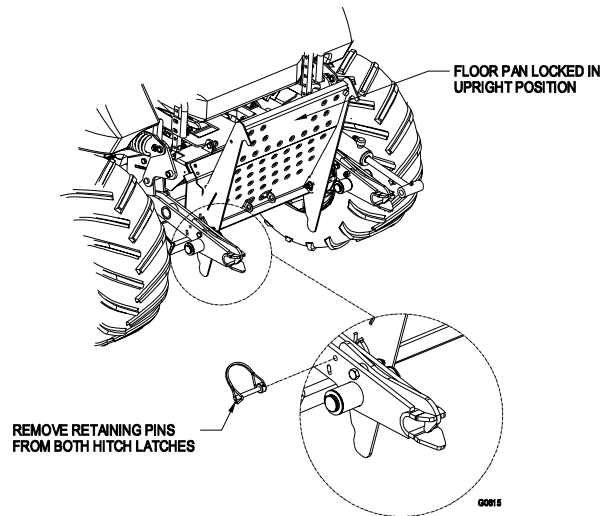

FIGURE 2
3.1.3 On the tractor, release the two retaining pins on the hitch latches so the latches can actuate freely. Raise the floor pan and lock in upright position. (See Figure 2).